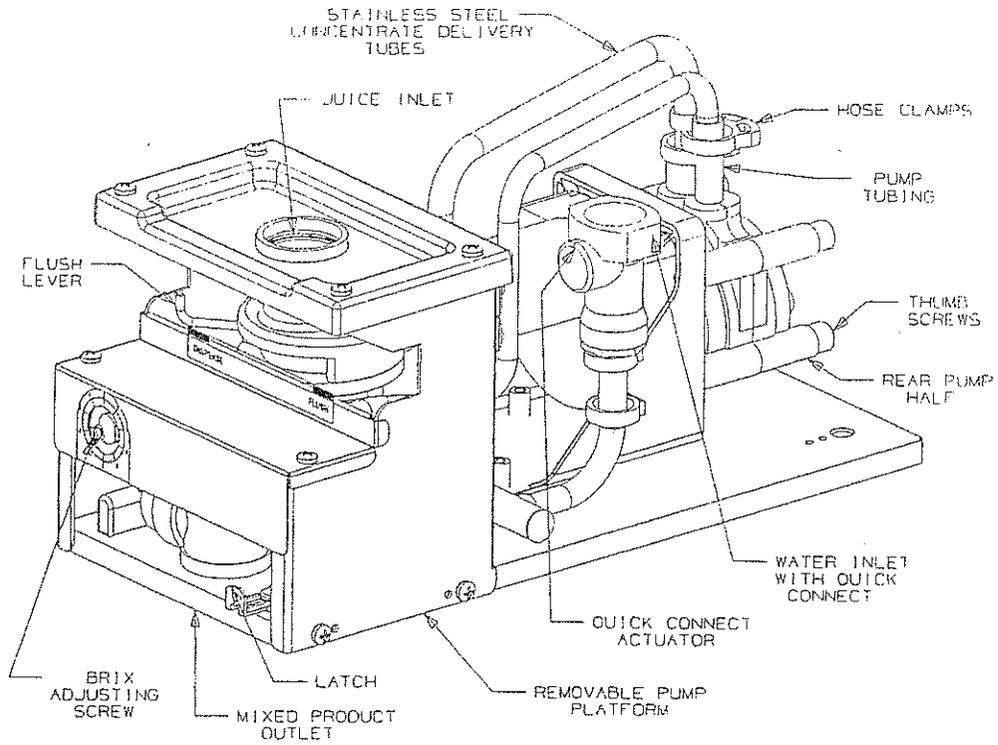

FIG. 1
4.6.1 Removal of platform. (see fig. 1)